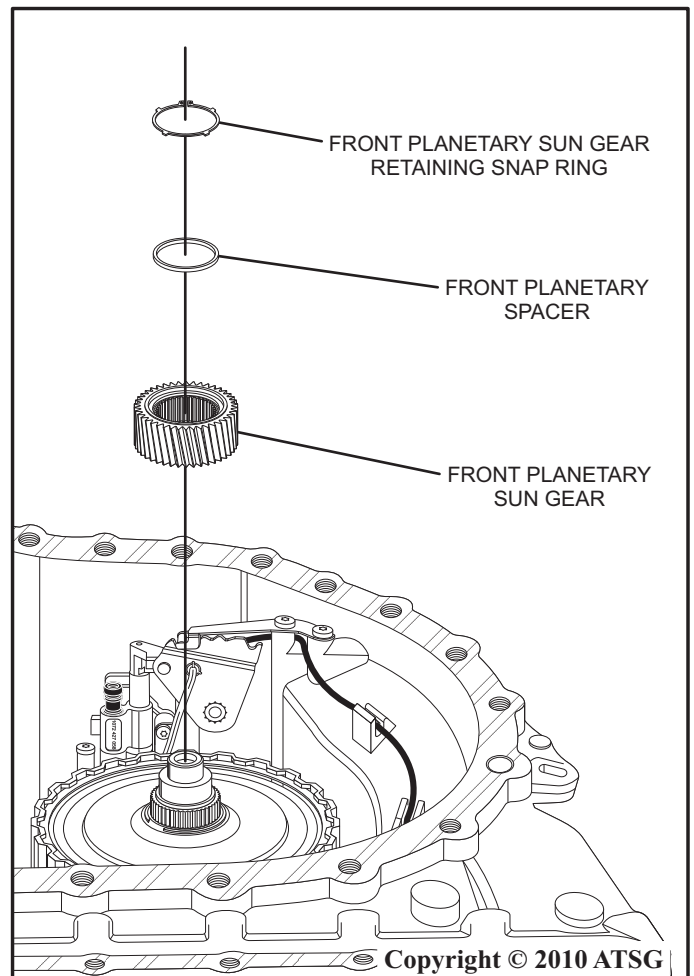

Figure 15
30. Using a suitable pair of snap ring pliers, remove the front planetary sun gear retaining snap ring as shown in figure 15.
31. Remove the front planetary spacer as shown in figure 15.
32. Remove the front planetary sun gear as shown in figure 15.